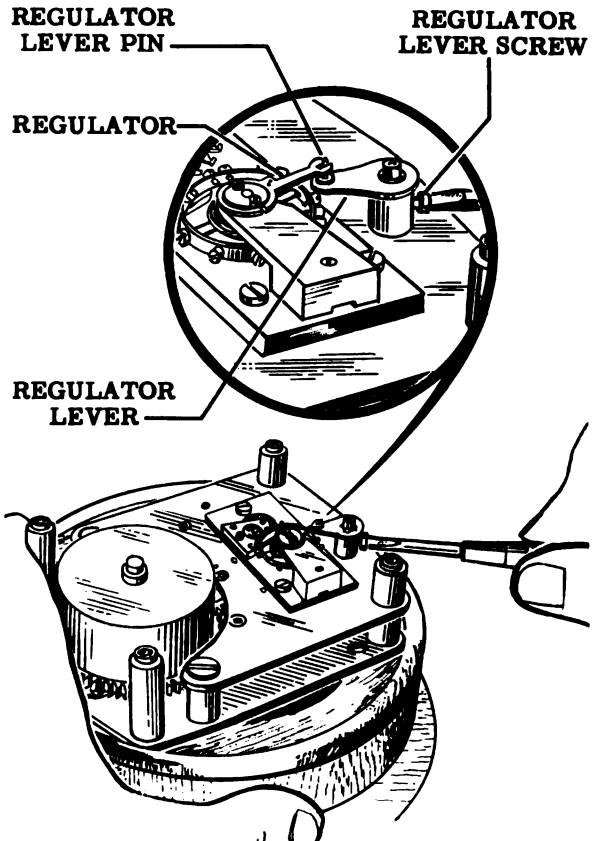

Figure 97
16. Properly position the regulator lever on the regulator shaft so that it engages the escapement regulator as shown in Fig. 97. Tighten the regulator lever screw. Final adjustment of the regulator is described in Operation 19.